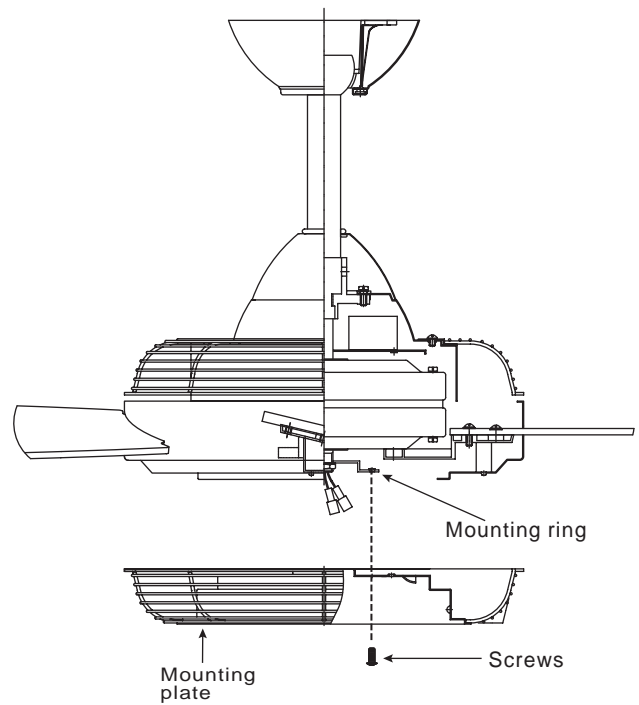

Figure 18
2. Place the key holes on the mounting plate over the 3 screws previously loosened from the mounting ring, turn mounting plate until it locks in place at the narrow section of the key holes. Secure by tightening the 3 screws previously loosened and the one previously removed. (Figure 18)